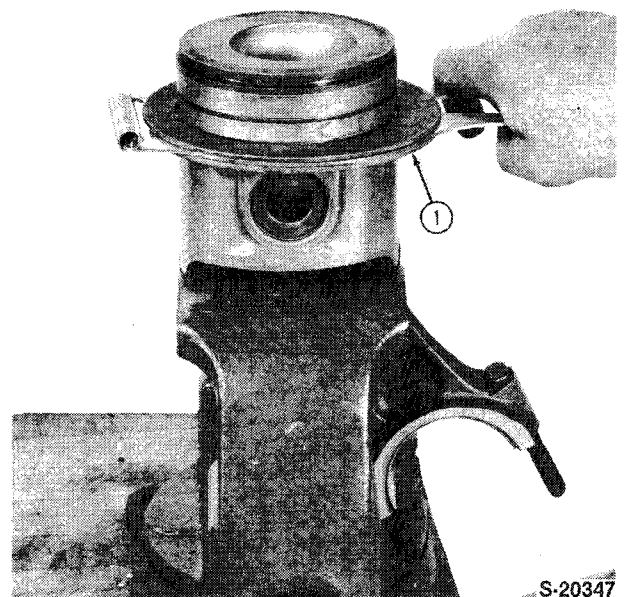

Figure 36
2. Use an expander to remove the piston rings, Figure 36.